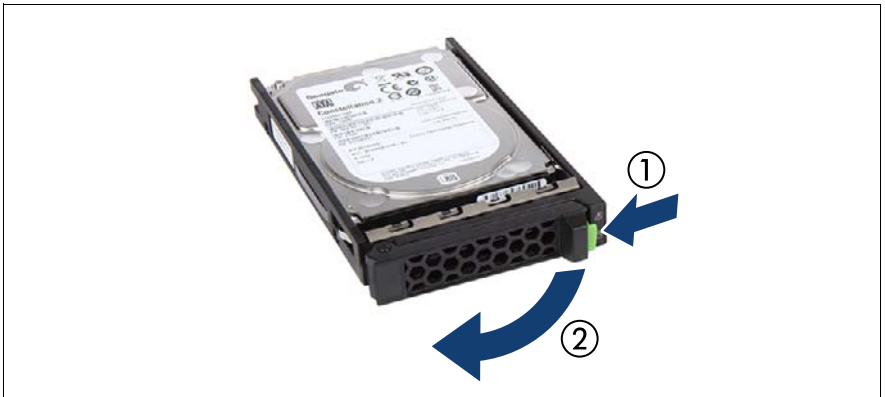

Figure 56: Opening the 2.5-inch HDD/SSD module locking lever
- ▶ Pinch the green locking clips and open the locking lever (see figure 56).